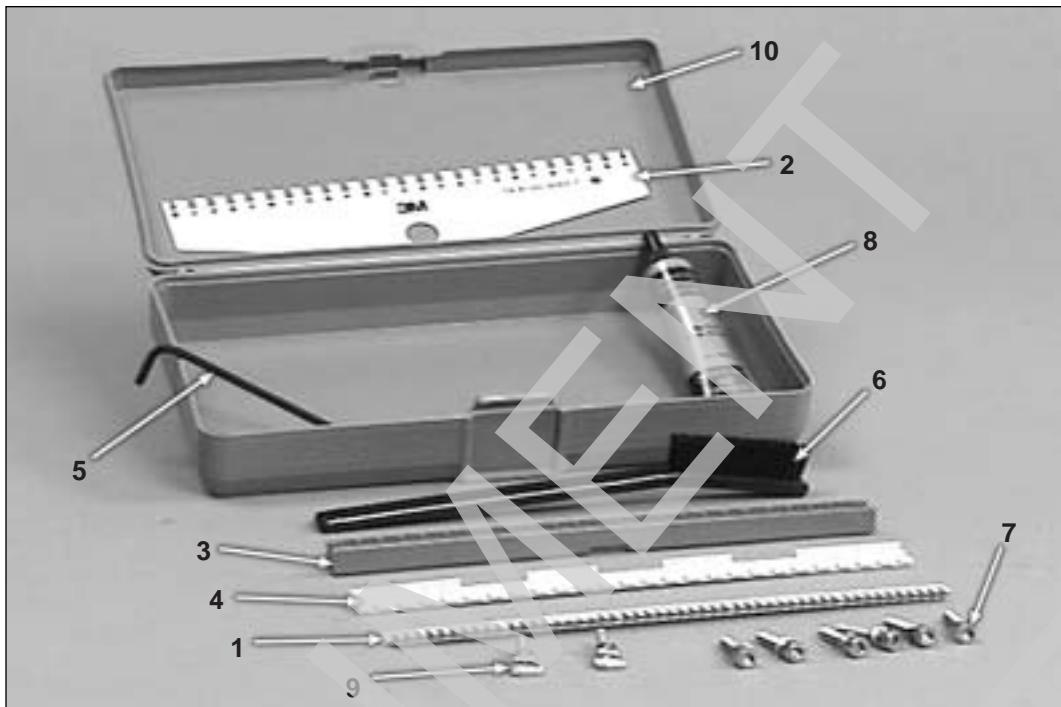

Figure 4
7. Check for wire color code dressing errors with the error tester (fig. 4 #2). With tester to the left, between the vertical posts all tip conductors are visible. With the tester to the right, all ring conductors are visible. Any errors can be detected and corrected.
16. Check for color code dressing errors with the error tester. (fig. 4 #2) With the error tester to the left, between the vertical posts all tip conductors are visible. With the tester to the right all ring conductors are visible. Any errors can be detected and corrected.
25. Check for wire dressing errors with an error tester. (fig. 4 #2) **DO NOT CUT AND SEAT THE CONDUCTORS.**
33. Position a 3M710 red bridge module support (fig.4 #3) between the vertical side posts (fig. 1 #2) with the word FRONT facing the operator/"T" bar. Push the "L" clip button inward, (fig. 1 #9 and release to secure the support in position.
39. Position a 3M710 bottomless splice module support (fig. 4 #4) between the vertical side posts. (fig. 1 #2). The large gaps go to the rear and accommodate the “L” clips. (fig 1 #8). Push the “L” clip button (fig. 1 #9) to tightly seat the module support.